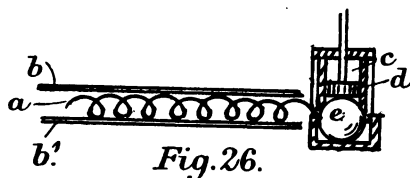

Fig. 26.
M. Victor Galliene has experimented in this direction, as shown by the sectional view, Fig. 26, in which a is a spiral elastic tube representing a trachea, and terminating in an elastic ball or air reservoir e . This is rapidly expanded and contracted by the vibration of a piston d within a cylinder c . Two elastic membranes b , b' are stitched or sewn together in seams, so as to enclose the several trachea extending radially from the root of the wing, and operated alternately in pairs. Finely tempered steel wires of tapering form are used to impart the necessary rigidity to the structure. In the experiment there were eight cylinders, each operating the corresponding artificial nervure on opposite wings, four nervures to the anterior wings and four to the posterior.